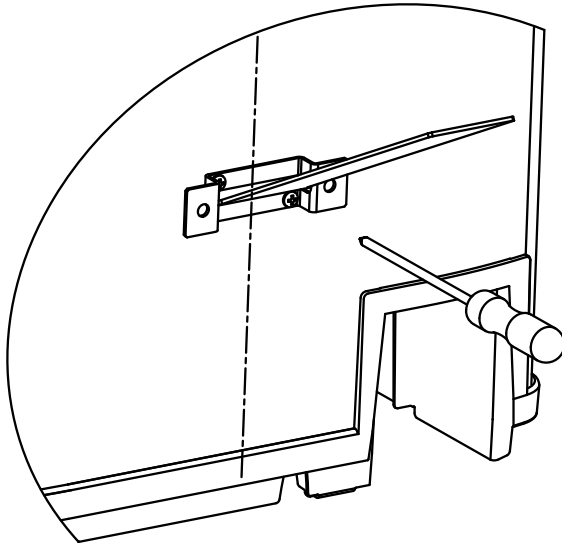

Fig.1
- 2.7 The bracket bolted to the CASE BACK of the Supreme uses the M10 x 20 set screws (2 off) supplied. The small, slotted, CASE BACK bracket is secured in position with No. 8 x ½” screws (supplied). Note orientation and slot in the case anchor strap before fitting screws (Fig. 1).